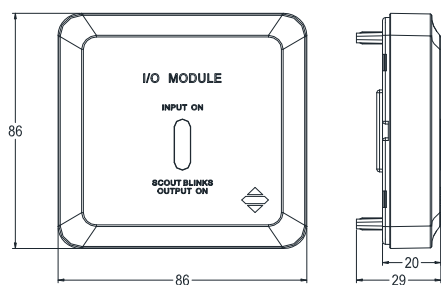

Fig. 1 Main part (unit mm)
TO+,TO-	Voltage-free Input, factory default mode is normally open. For normally closed mode, Jumper JP4(see Fig1)'s Pin1 & Pin2 should be shorted.
2. Connect the 4-pin coding plug on the coder with the 4-pin coding socket (see Fig.1) on the main body of the BP-FD-AIO319 module and then set the coder with the coding function and compile the correct address code to finish the address coding.